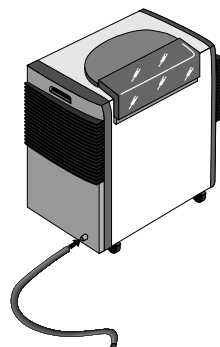

Fig. 3
- 4) There is a special pre-marked hole on the panel door of the appliance to allow the hose to pass through (fig. 3). Before passing the hose through this hole, it is necessary to remove the central disk from the hole. Be careful to make sure the hose does not have to go "uphill", or the water will be left inside the canister.